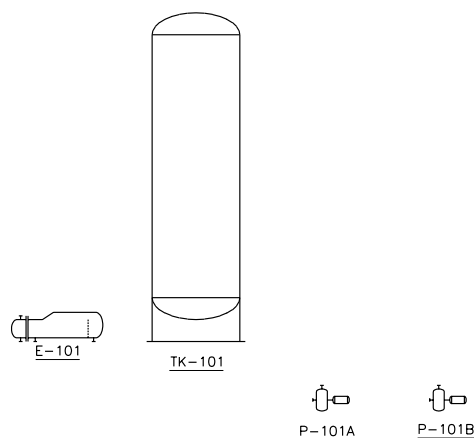

Figure 2-39 P&ID after placing two centrifugal pumps
- Similarly, place another horizontal centrifugal pump at the point (21,3). Next, assign the tag **P-101B** to the pump. Figure 2-39 shows the P&ID after placing the centrifugal pumps.